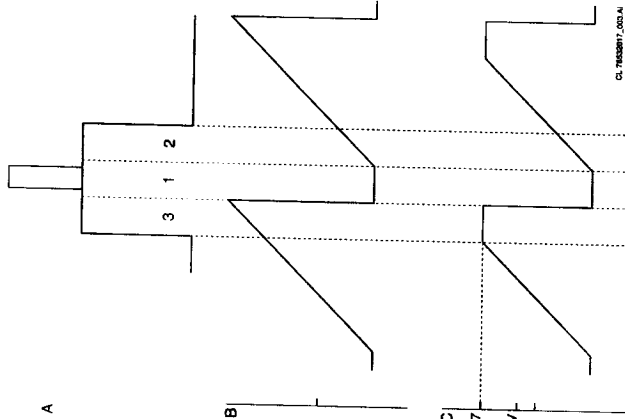

Fig. 9.1
9.1 Line and frame blanking (Fig. 9.1 & 9.2)